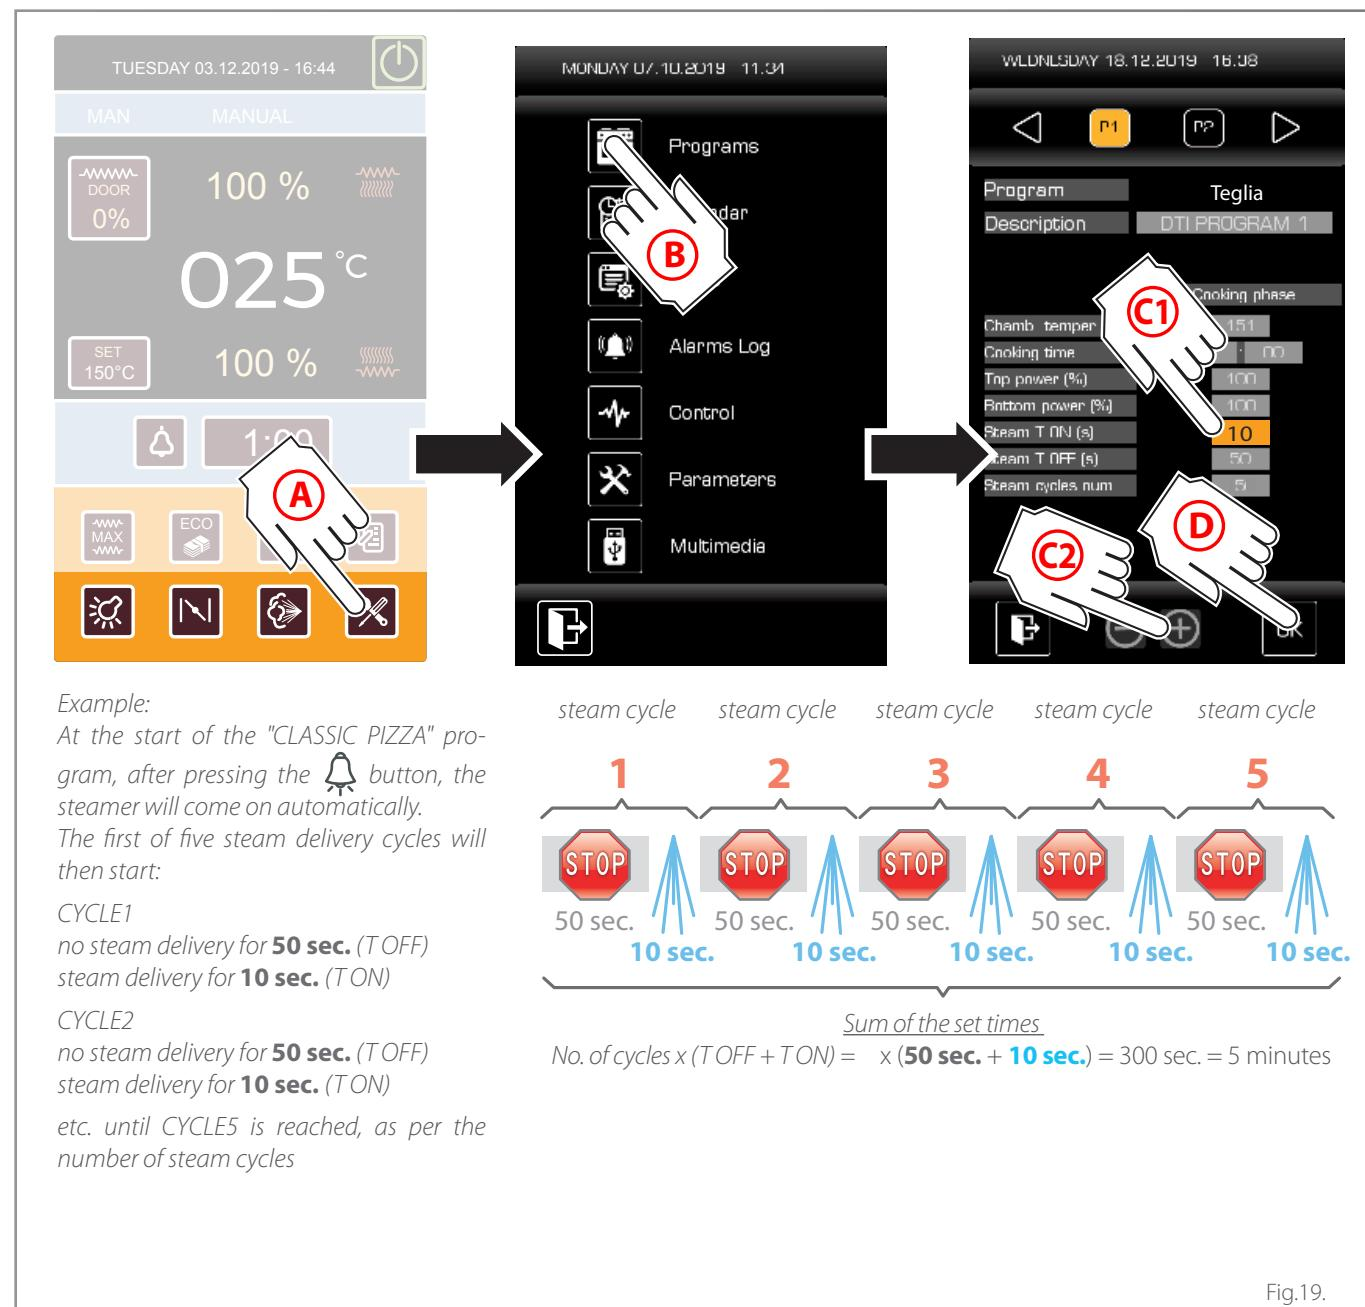

Fig.19.
► Fig.19.
- (A) Go to the "Service" page.
- (B) Go to the "Programs" page.
- (C) Set a program (e.g. BAKING TIN), entering, in addition to the usual cooking parameters (chamber temperature, element percentages, etc.), the following values: